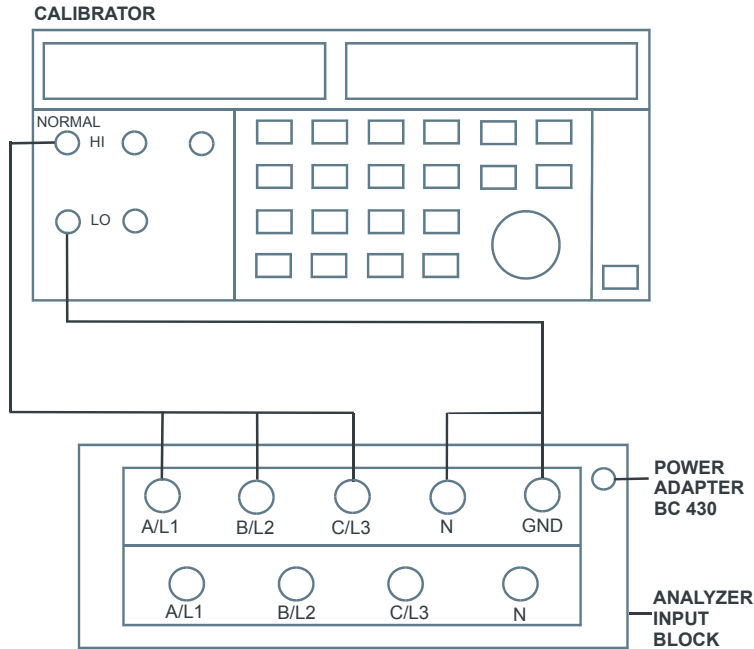

Figure 3-3. Checking the A/L1, B/L2, and C/L3 voltage inputs
1. To check the A/L1, B/L2, C/L3 inputs, connect the N input to Ground (See Figure 3-3). N now will give zero reading.
2. To check the A/L1, B/L2, C/L3 inputs: connect the N input to Ground (See Figure 3-3).